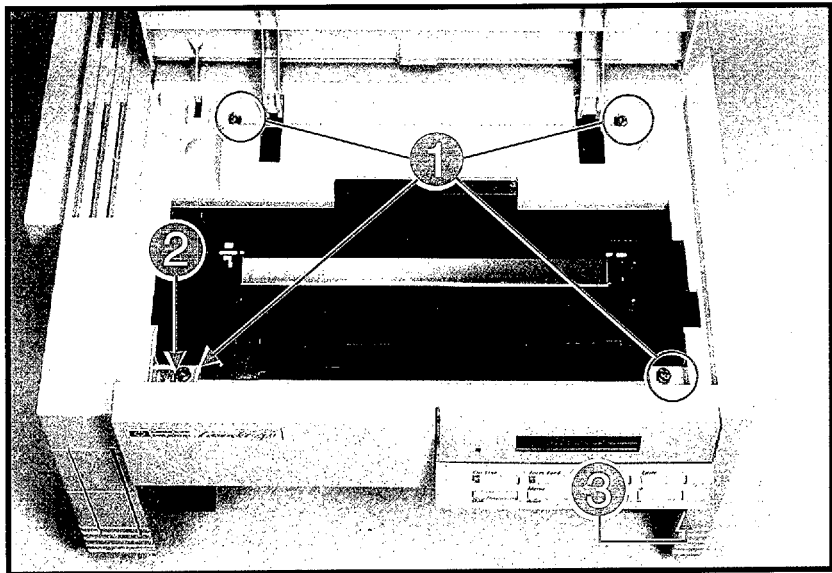

Figure 6-8 Removing the Printer Cover Screws (LaserJet 4P/4MP)
5. From the top of the printer, remove the (4) self-tapping screws (Figure 6-8, callout 1) and one machine screw (callout 2).
6. From the front of the printer, remove the one machine screw with star washer (Figure 6-8, callout 3).